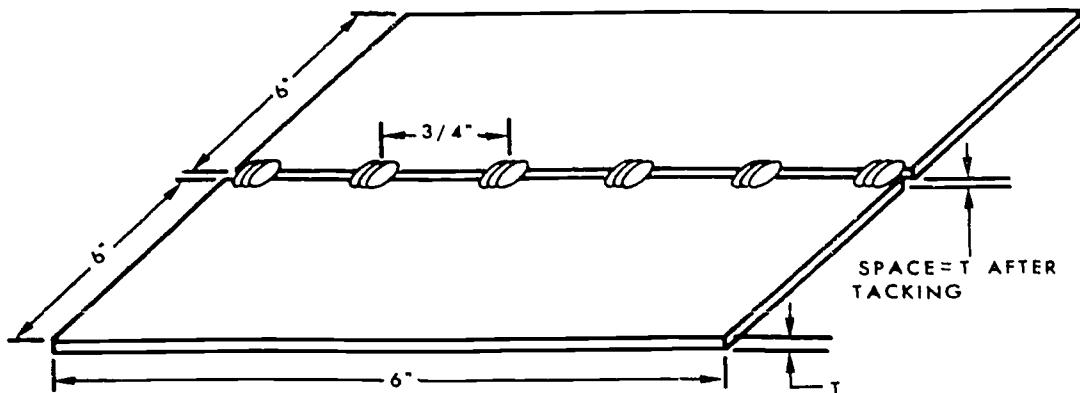

Figure 6-3. Proper tack welding of stainless steel.
**Metal preparation and setup.** Light gage sheet stock to be butt welded must be accurately sheared and free of burrs, and the edges must be thoroughly cleaned of all foreign matter. When you weld butt joints, align the joint edges parallel, allowing a space approximately the thickness of the metal, and tack weld, as shown in figure 6-3.